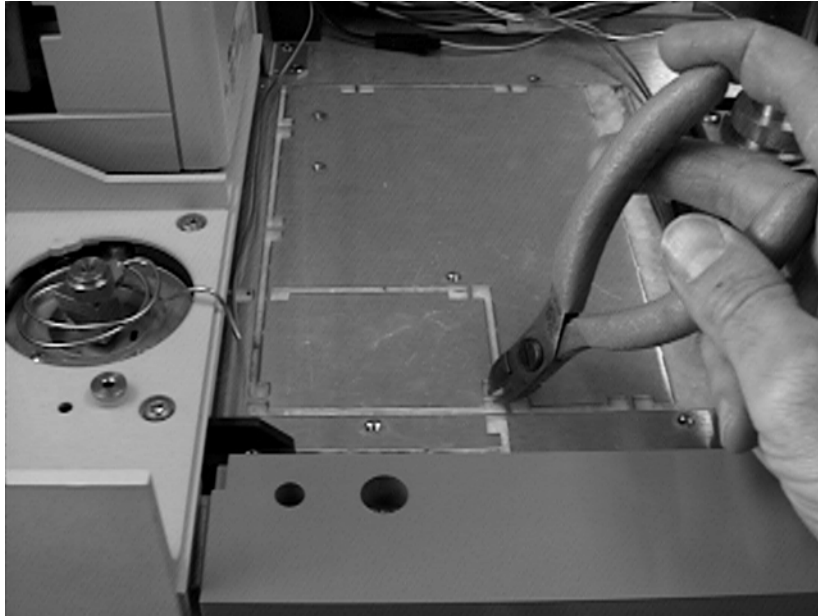

Figure 3 Removing the precut panel
- 1 Looking at the oven top (from the front of the GC), use diagonal cutters to remove the precut panel at the right of the front inlet (see Figure 3). Position and remove enough oven insulation to install the inlet.